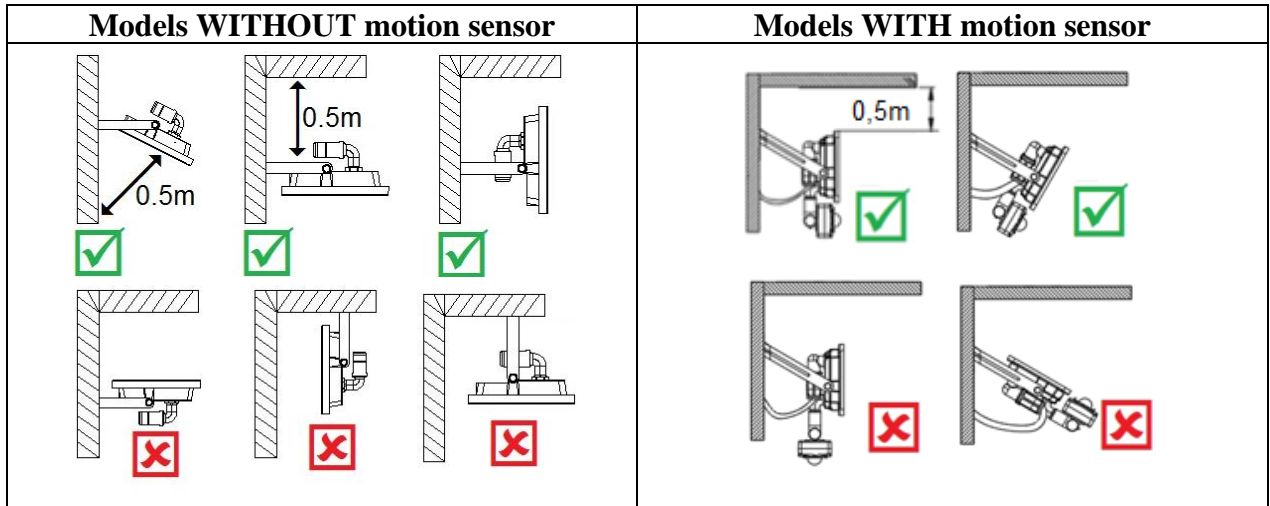

Fig. 4
- Ensure a ventilation distance of greater than 0,5 metre is allowed between the luminaire and adjacent objects. See Fig. 4 for examples.